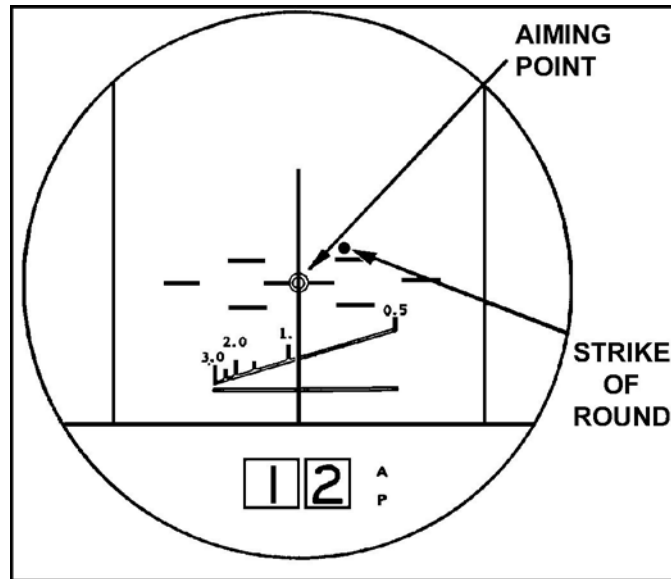

Figure 5. Strike of round.
- h. Look at the strike of the round through the gunner's eyepiece (Figure 5).